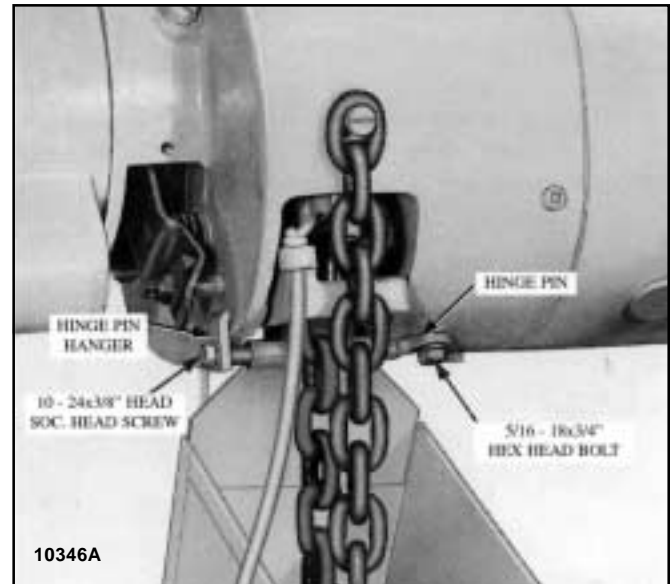
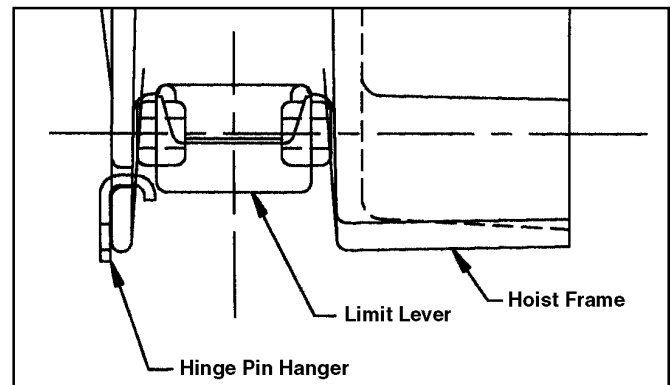
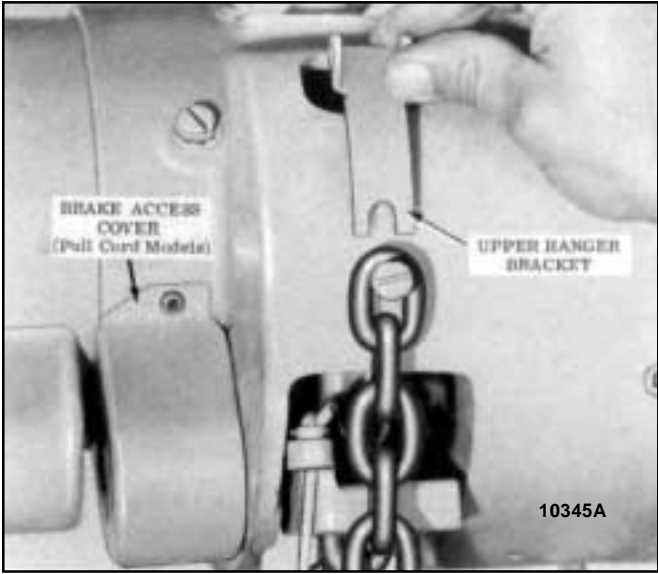

Figure 1. Hinge Pin and Hanger Installation
Figure 3.
Figure 4. Positioning Upper Hanger Bracket
3. Insert hinge pin hanger into hoist frame as shown in Figure 3. Insert hinge pin into hinge tube welded to container. Attach hinge pin to the hanger with flat washer and self-locking hex socket head screw, being sure that the pin is fully inserted into hole in the hanger. Pin and hanger must be positioned as shown in Figure 1. Attach hinge pin to frame with bolt and lockwasher. The hanger must be held tight against hoist frame while tightening this bolt (pin is slotted to permit slight lateral adjustment). On Pull Cord Control model hoists, brake access cover (Figure 4) must be temporarily removed before attaching container and hinge to frame.
5. Loosen screw anchoring tail chain to hoist frame and install upper hanger bracket. See Figure 4. Hook tab on back of bracket over bottom edge of the access hole in frame. Fit slotted end of bracket behind tail chain link at anchor screw.
7. On Pull Cord Control models, looking at motor end of hoist, remove "Down" control cord from right hand end of limit lever. Install plastic tube over upper foot of cord to prevent chafing of cord on side of container. See Figure 1 on other side. Knot cord at bottom of tube to hold in place. Reattach control cord to limit lever.